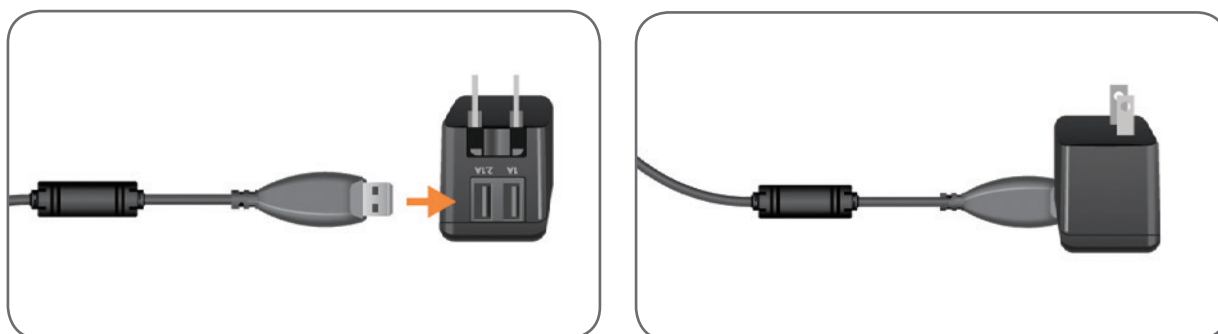

Figure 4-6: Inserting USB Charging Cable into AC Adapter
2. Insert the USB end on the magnetic charging cable into any of the two available USB ports on the AC adapter. If you are charging both the lower leg FS Cuff and thigh FS Cuff, connect an additional USB charging cable to the AC adapter. See Figure 4-6.